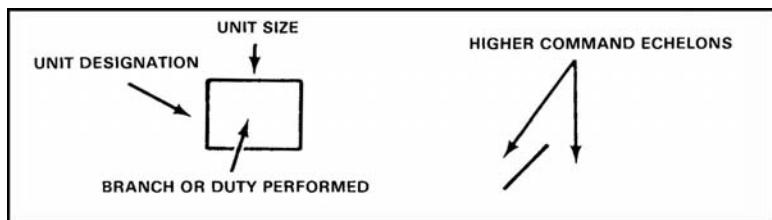

Figure 071-329-1019-3. Development of unit symbol
- c. Unit-size symbols (figure 071-329-1019-4).